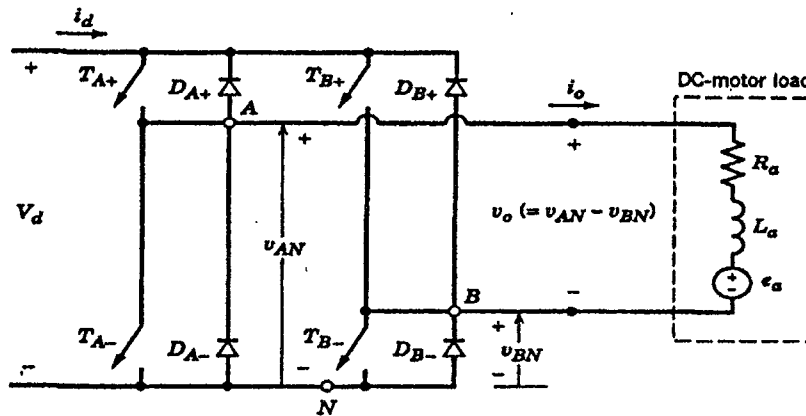

Figure 2 Full-bridge dc-dc converter.
- (b) A full-bridge dc-dc converter connected to a dc motor load is shown in Figure 2.